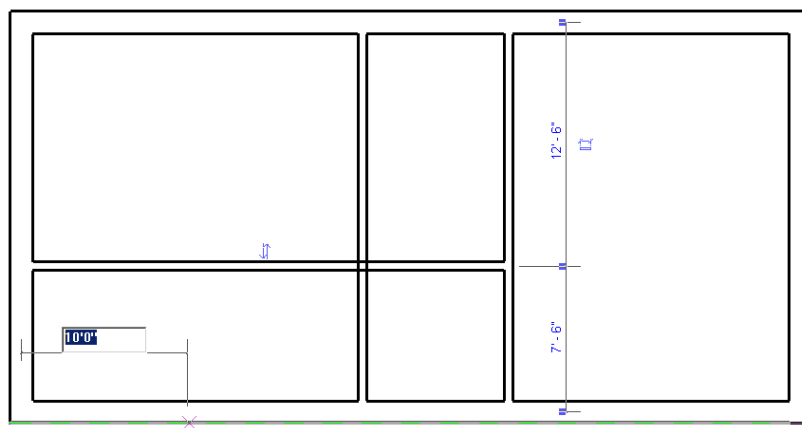

Figure 2-54 Sketching the interior walls of the bath
6. Similarly, move the cursor near the lower left corner and then move it horizontally toward the right. When the temporary dimension and the intersection object snap appears, enter the value **10'0"**, as shown in Figure 2-54.